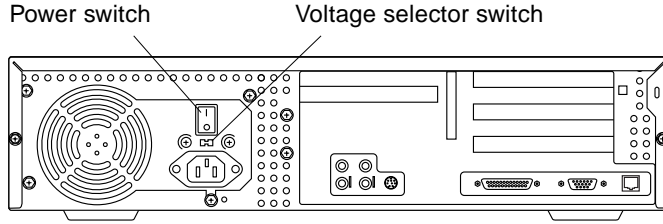

FIGURE 1-9 Ultra 5 System Power Switch
4. Set the power switch to the on position (FIGURE 1-9).